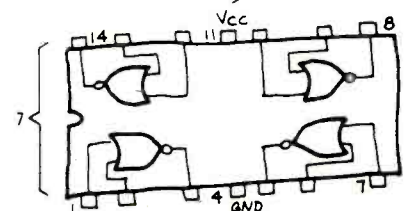

FIG. 2—COMPLETED SIGNATURE CHART for the unknown IC. It turned out to be an quad, 2-input NOR gate.
A voltage less than 0.2, but greater than zero, usually indicates logic outputs in the low state. None of those appear in Fig. 2.
Now is the time to remove and reapply power to the IC. Do that several times, each time comparing the voltage at each suspected output to its original recorded value. Often a flip-flop will reveal itself by changing the state of one or more of its outputs. A simple gate will never change state in response to that little trick. The IC in Fig. 2 did not change state so I assumed it was not a flip-flop.
Voltages from about 1.8 down to 0.8 usually indicate TTL or DTL inputs. The fact that there are no such voltages in the "volts-to-ground" row of Fig. 2 was certainly a surprise to me, but it did lead to a pretty solid conclusion: If the IC is not defective, then it is not TTL or DTL.
Input currents for RTL, DTL and TTL fall between 0.8 mA and 2.0 mA. In Fig. 2 all the probable inputs draw 1.4 mA referenced to V_{CC} and nothing referenced to ground. That verifies that they are inputs and shows they are active (draw current) when the input is pulled high. RTL is active-high. DTL and TTL are active-low. Since there appear to be twice as many inputs as outputs, the chart suggests that our IC is a quad gate of some sort. It is reasonable to conclude that pins 1, 2, 6, 7, 9, 10, 12 and 13 are inputs.
Step 5: The symmetrical pattern of resistances in the signature and the strong evidence for four independent outputs with logic-level voltages pretty much rules out any linear IC. Resistive pull-ups could be DTL, but DTL inputs are active-low and our IC is active-high. After reviewing all the evidence I felt there was absolutely no doubt that this device was RTL. That conclusion was recorded in Fig. 2.
The relationships between the inputs and outputs and the conclusion as to the type of device I was dealing with are listed in Fig. 2 as step 6.